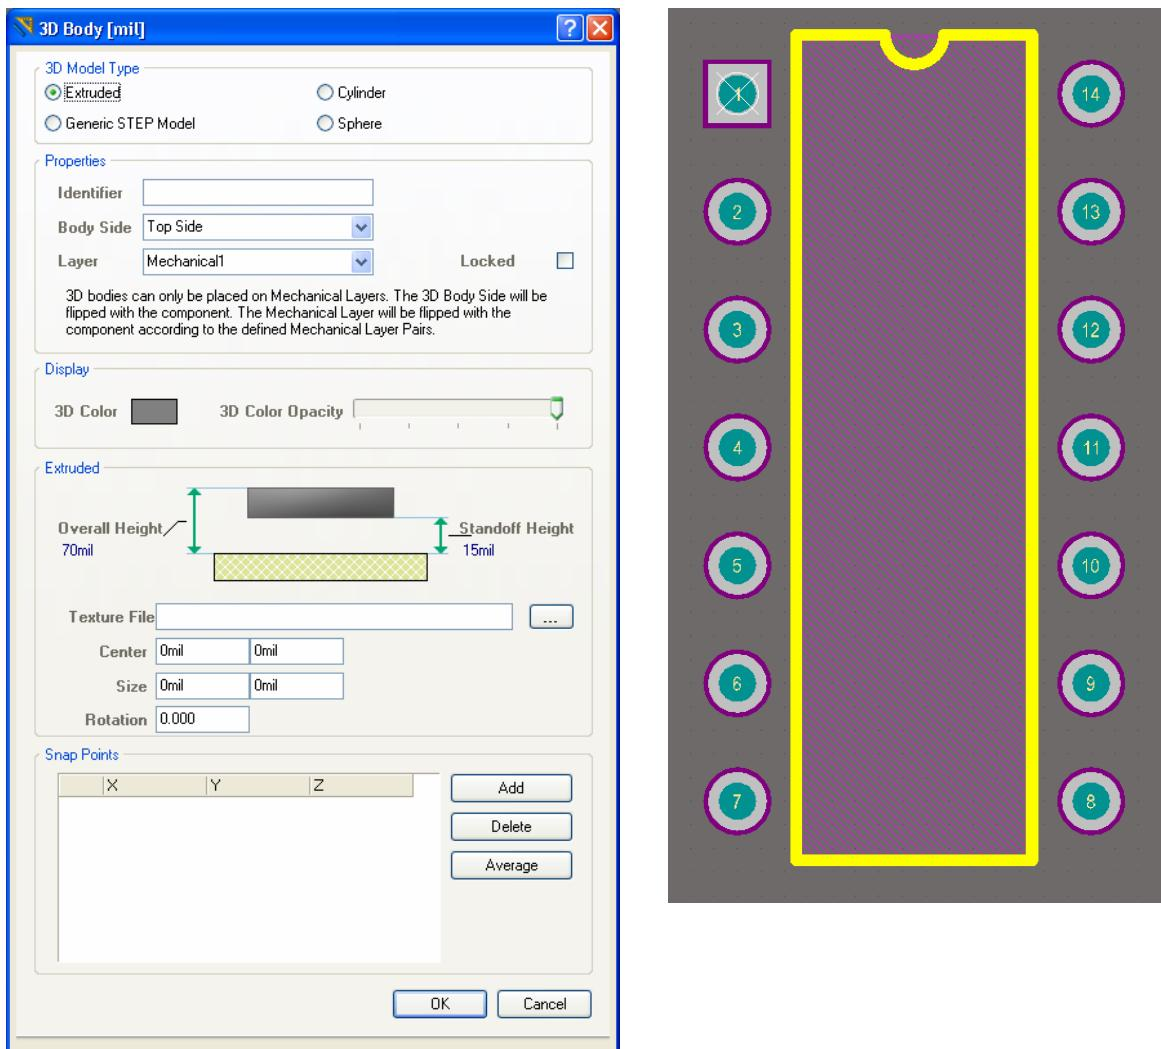

Figure 17. Define the 3D body overall height and standoff height. The Body after it has been placed on the DIP14.
3. Select **Place » Place 3D body** [shortcut P, B]. The *3D body* dialog will open, as shown in Figure 17.